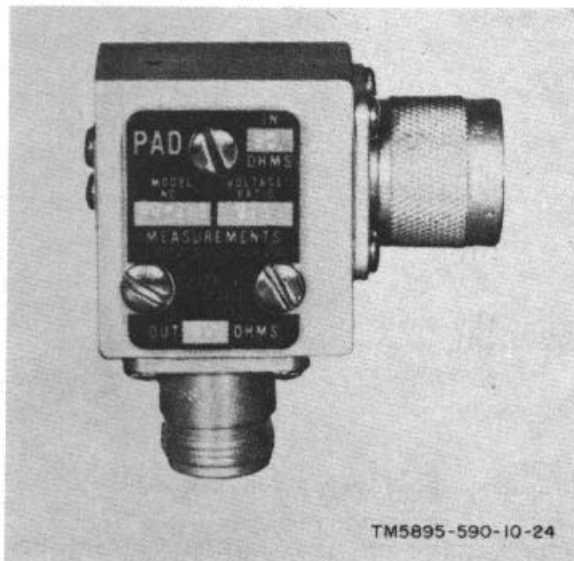

Figure 1-31. Attenuator, Fixed CN-1239/U.
v. Attenuator, Fixed CN-1239/U (fig. 1-31). The 6-decibel (db) attenuator is used during receiver testing. The 6-db attenuator components are housed in a small metal enclosure complete with a coaxial input connector on one side and a coaxial output connector on an adjacent side. The 6-db attenuator is designed for insertion between the output of a signal generator and the antenna input jack of a receiver under test.